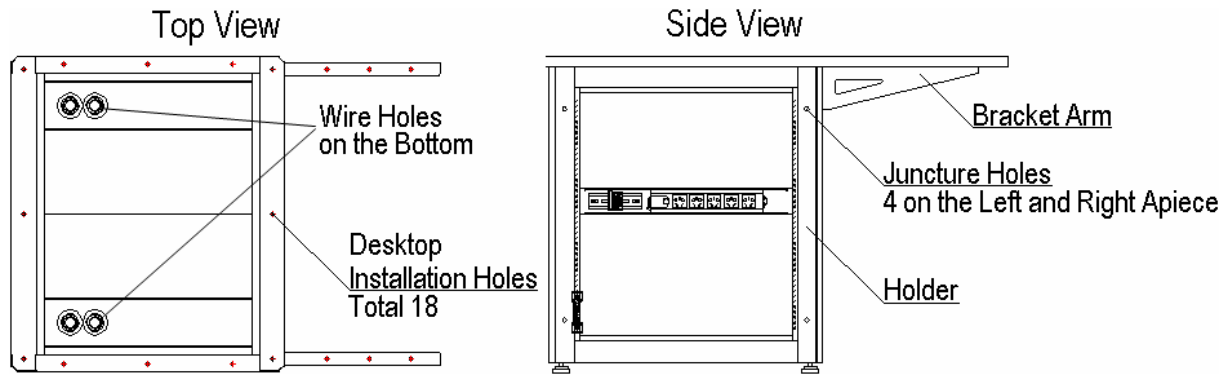

Figure 5-1 Holes
4. Use M8 screw to link the adjacent operation desks via the holes on the frame stand column, and then tighten the screw M8 by screwdriver to link the adjacent operation desks closely. The holes are shown in Figure 5-1.
5. Install the bracket arm on the desk body module pre-tightly by the screw M6, which is shown in Figure 5-1.
6. Install the desktop. Put the desktop on the desk body, and pre-tighten the up desktops via desktop installation holes by the screw M6, which is shown in Figure 5-1.